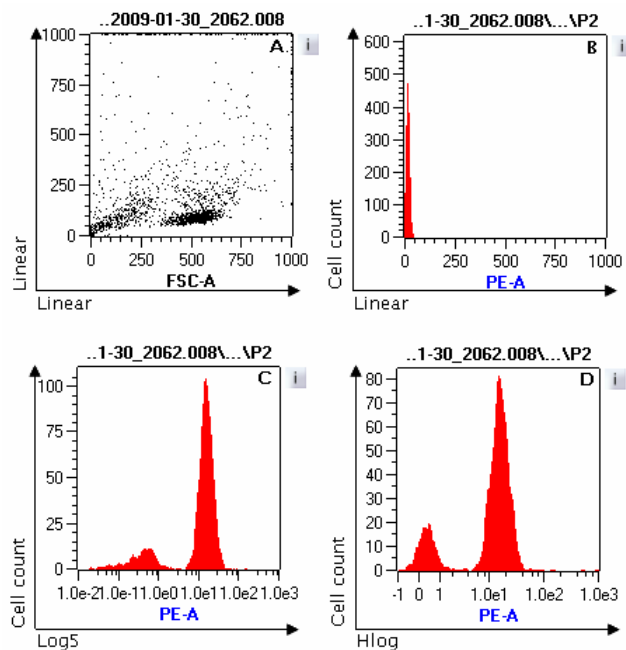

Figure 2.4 Comparing log and linear scales when displaying fluorescence and non-fluorescence events.
Standard dot plots showing side scatter and forward scatter typically use linear scales. This is often not possible when fluorescence labeled and non-fluorescence labeled cell populations are being analyzed as the difference in fluorescence signal intensities can extend over several orders of magnitude. As a consequence a logarithmic scale must be used. The impact of selecting an appropriate scale is exemplified by Figure 2.4 below. In this example a sample was analyzed which contained a population of white blood cells labeled with the fluorochrome phycoerythrin (PE). A linear scale was used to display a dot plot of forward scatter vs. side scatter (A) and to display a histogram of PE fluorescence intensity versus cell count (B). In Figure 2.4: B, the signal intensities of non-fluorescence cells and fluorescence labeled cells are “squeezed together”. To separate the signals a log5 scale was used (Figure 2.4: C) revealing two peaks: the left peak is attributable to background fluorescence whereas the right peak is due to cells labeled with PE. As the MACSQuant Analyzer acquires data in a digital format some fluorescence intensities may be assigned a value less than zero. Data values less than zero may not be displayed properly using a conventional logarithmic scale, although